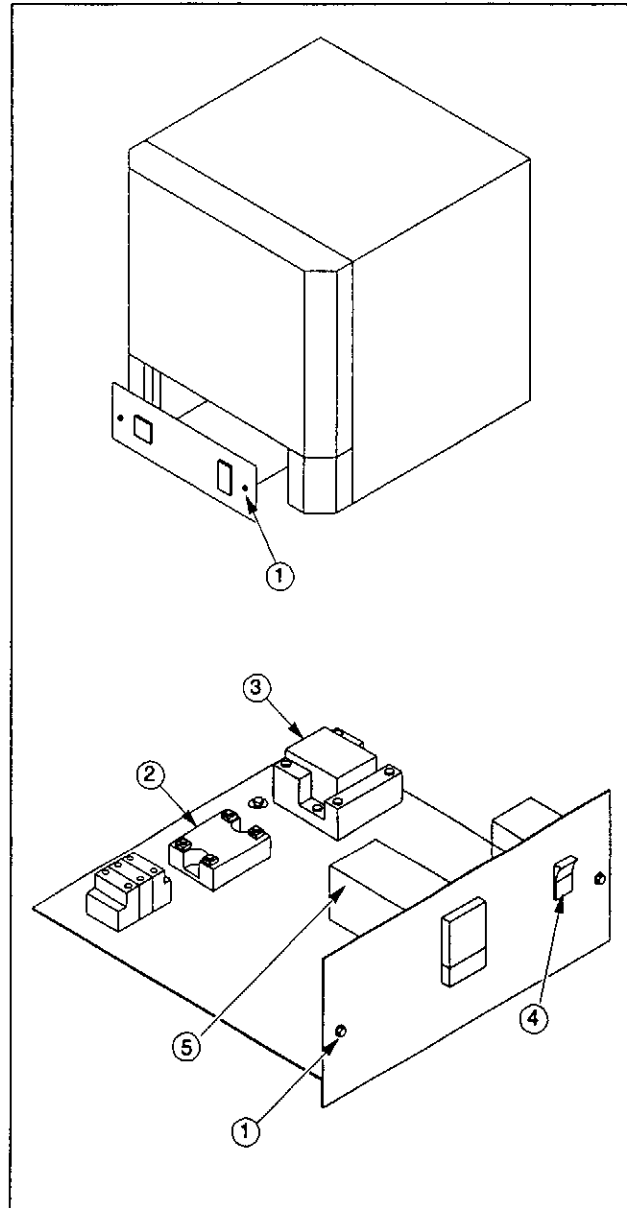

Figure 8. Solid State Relay Replacement
Refer to the Troubleshooting section for relay testing. If the solid-state relay is inoperable, complete the following steps to replace the relay (refer to Figure 8):
1. Remove the screws located on the left and right sides of the control panel (item #1 in Figure 8).
3. Locate the solid-state relay on the component tray (item #2 in Figure 8).
Refer to the Troubleshooting section for power relay testing. If the power relay is inoperable, complete the following steps to replace the relay (refer to Figure 8):
3. Locate the power relay on the component tray (item #3 in Figure 8).
To replace the entire controller, complete the following steps (refer to Figure 8):
1. Disconnect the main power and switch the circuit breaker (#4 in Figure 8) to the OFF position.
2. Remove the two sheet metal screws located on each side of the furnace near the lower front (#1 in Figure 8). Pull the control panel forward to access the controller (#5 in Figure 8).